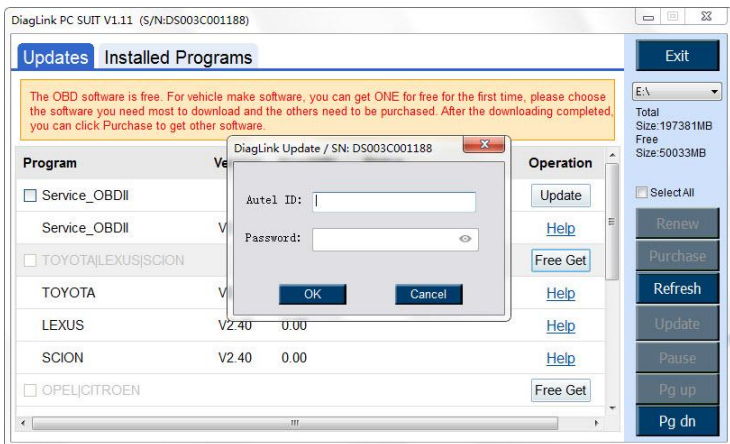

Figure 10.6
- 6) In a popped dialog box, enter your Autel ID and your password, and click **OK** (Figure 10.6).